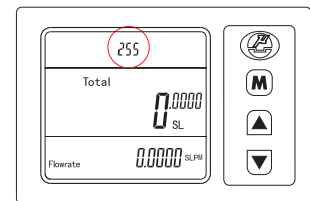
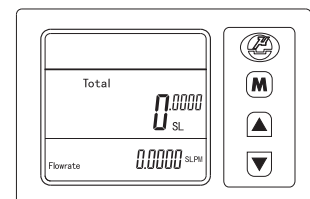

Figure 6-9 Multi-device communication mode
Figure 6-10 Single-device communication mode
(4) Communication Modes switches (Figure 6-9, Figure 6-10)
- Set the address of the meter (value of *SEt Addr*) as (3).E. such as 255;
- Set the meter to *Multi-device communication mode* (select value of *PrOTOCOL* to P1-255 or P2-255) as (3).D;